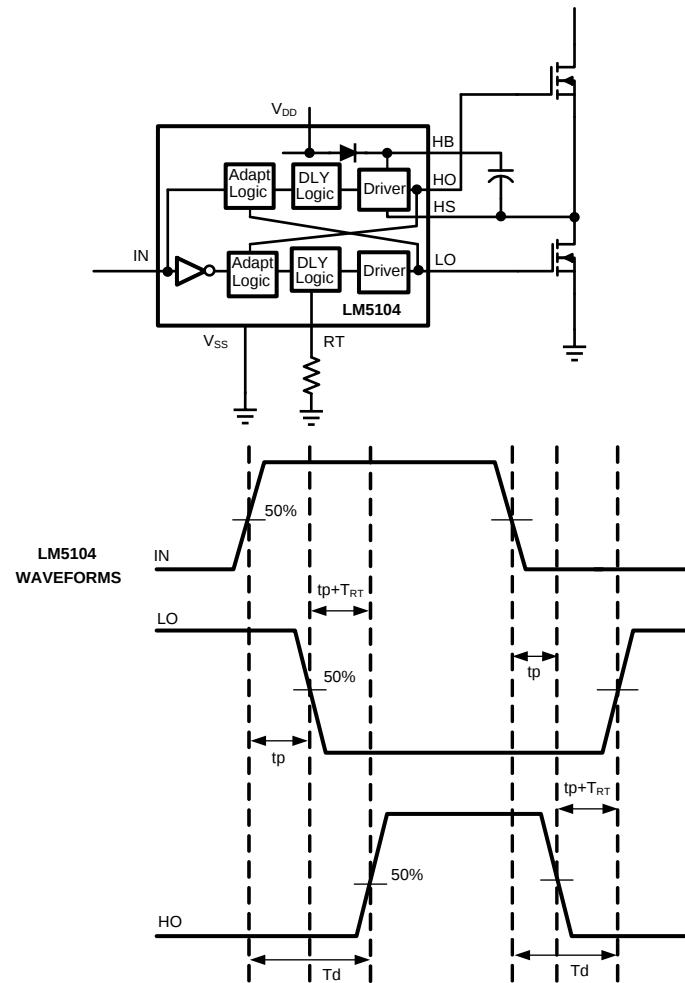

Figure 18. Application Timing Waveforms
LM5104 is a high voltage, high speed dual output driver designed to drive top and bottom MOSFET's connected in synchronous buck or half-bridge configuration, from one externally provided PWM signal. LM5104 features adaptive delay to prevent shoot-through current through top and bottom MOSFETs during switching transitions. Referring to the timing diagram Figure 18, the rising edge of the PWM input (IN) turns off the bottom MOSFET (LO) after a short propagation delay (t_p). An adaptive circuit in the LM5104 monitors the bottom gate voltage (LO) and triggers a programmable delay generator when the LO pin falls below an internally set threshold ($\approx V_{dd}/2$). The gate drive of the upper MOSFET (HO) is disabled until the deadtime expires. The upper gate is enabled after the TIMER delay ($t_p + T_{RT}$), and the upper MOSFET turns-on. The additional delay of the timer prevents lower and upper MOSFETs from conducting simultaneously, thereby preventing shoot-through.